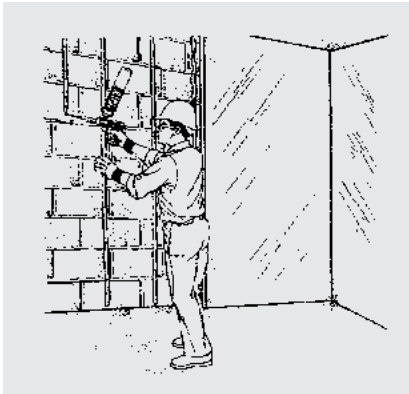

Figure 2
2. Apply heavy beads (min. bead size 3/8") of DuPont™ Enerbond™ Professional Foam Adhesive or appropriate construction-grade adhesive to the wall (Figure 2). **Note:** Follow adhesive manufacturer recommendations for application pressure and cure times for proper adhesion to masonry walls.